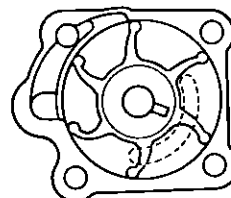

Figure 48. Position of Impeller Pin Groove.
- 2 Install impeller. Grooves for drive pin should be open when viewed from the bottom. Figure 48